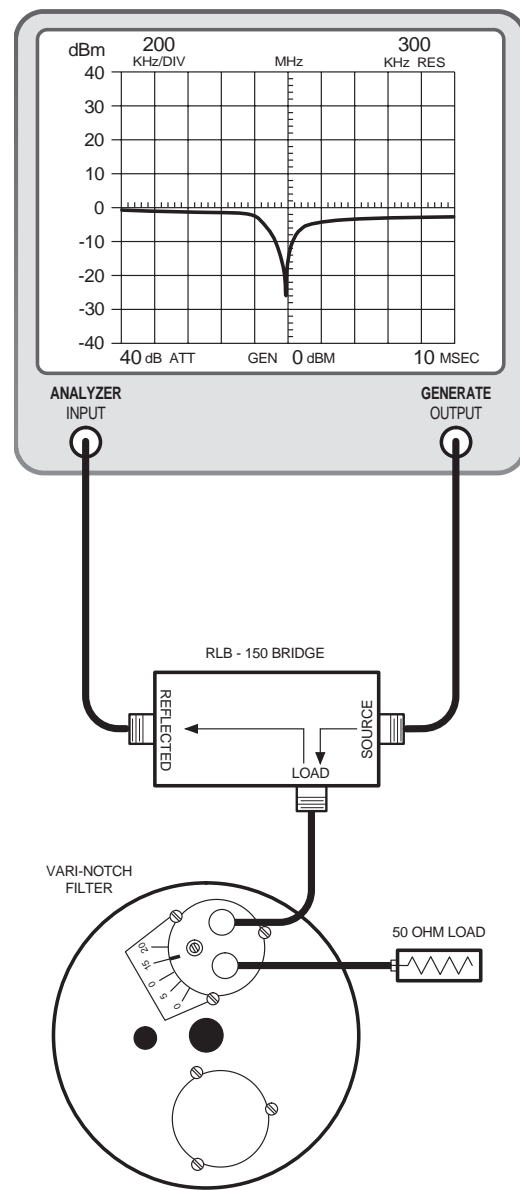

Figure 4: Checking the passband.
7. Connect the "load" port on the RLB to the input of the loop plate, make sure the output of the loop plate is connected to a 50 ohm load, refer to figure 4. The display will now present the return loss curve for the 6.625" Vari-Notch filter being measured. **The passband is that frequency range over which the return loss is 15 dB or greater.**
Set the fine tuning rod at it's mid-point. Adjust the passband by setting the peak (maximum negative value) of the return loss curve at the desired passband frequency (should be the center-vertical graticule line on the IFR A-7550's display). Refer to figure 4.